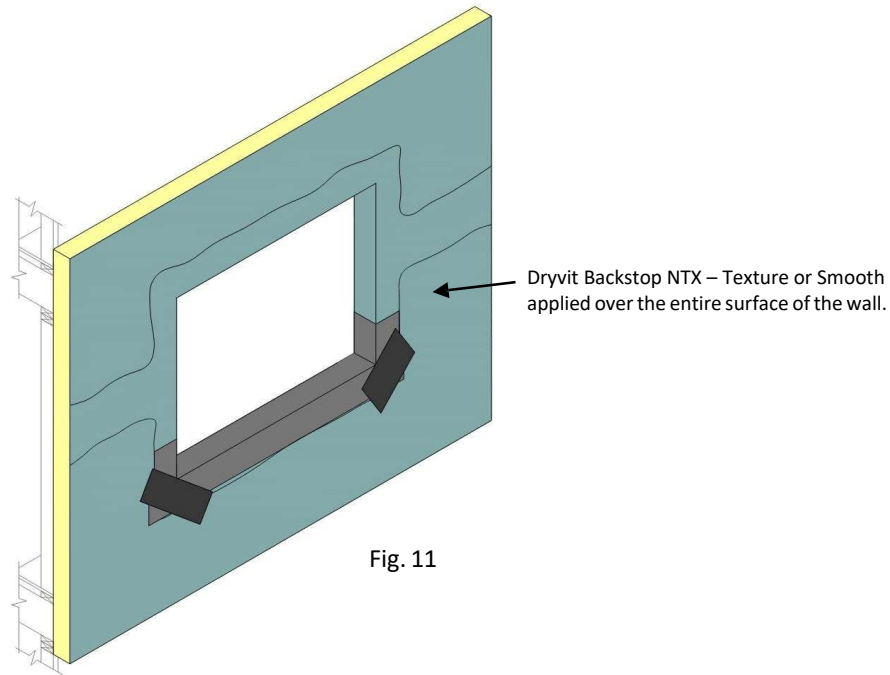

Fig. 11
- 4) Install the specified component (i.e. window, etc.) and associated flashings per manufacturer's directions and contract documents. Then apply Backstop NTX – Texture or Smooth to the remainder of the wall surface as described in Section 7 and lap over the previously installed material around openings – Figure 11.